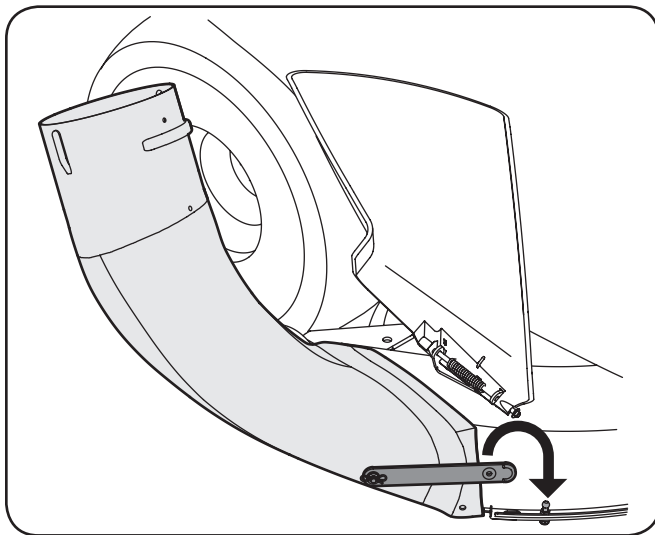

Figure 4-23
12. Secure the chute elbow to the tractor's deck by hooking the chute strap onto the ball pin installed earlier on the deck. See Fig. 4-23.